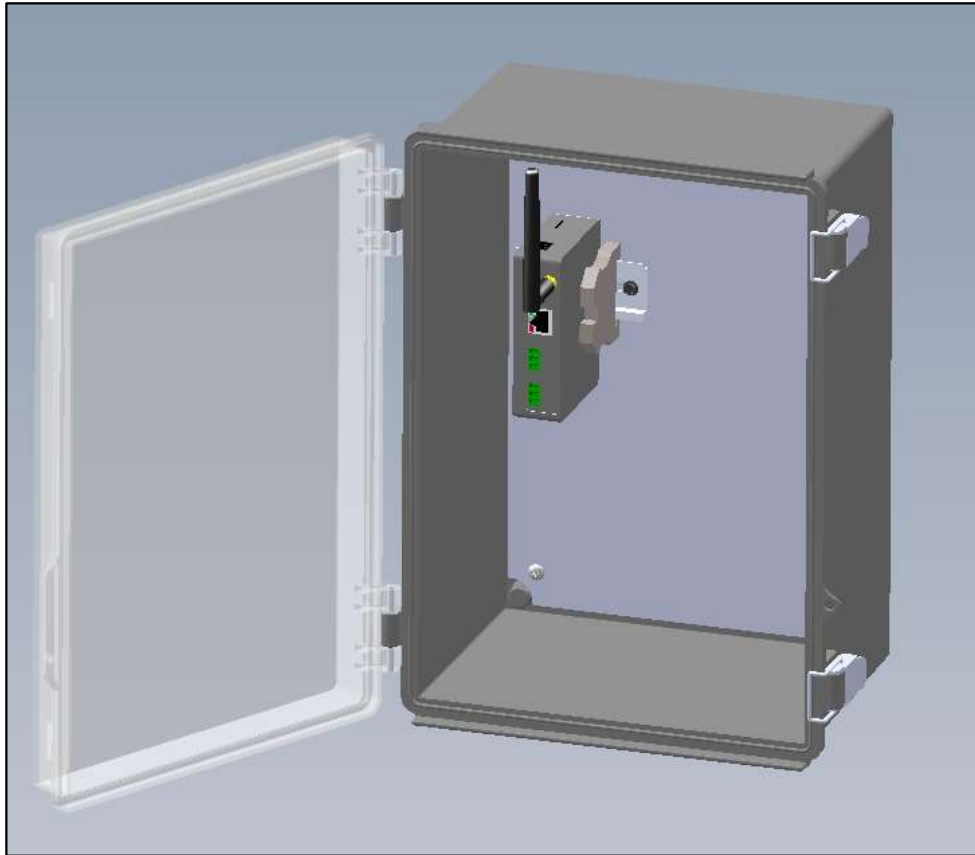

Figure 11-3: ProtoAir Kit with Plastic Enclosure
- Includes the ProtoAir mounted within a 14"x10"x7" plastic enclosure (see Figure 11-3), as well as mounting brackets to mount the enclosure to a wall.